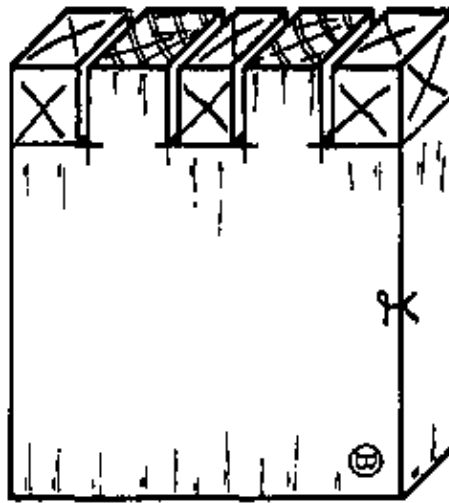

Fig. 5
– Rip the sides of the tenons down to the gauge line (Fig. 5). Saw on the waste side of the line.